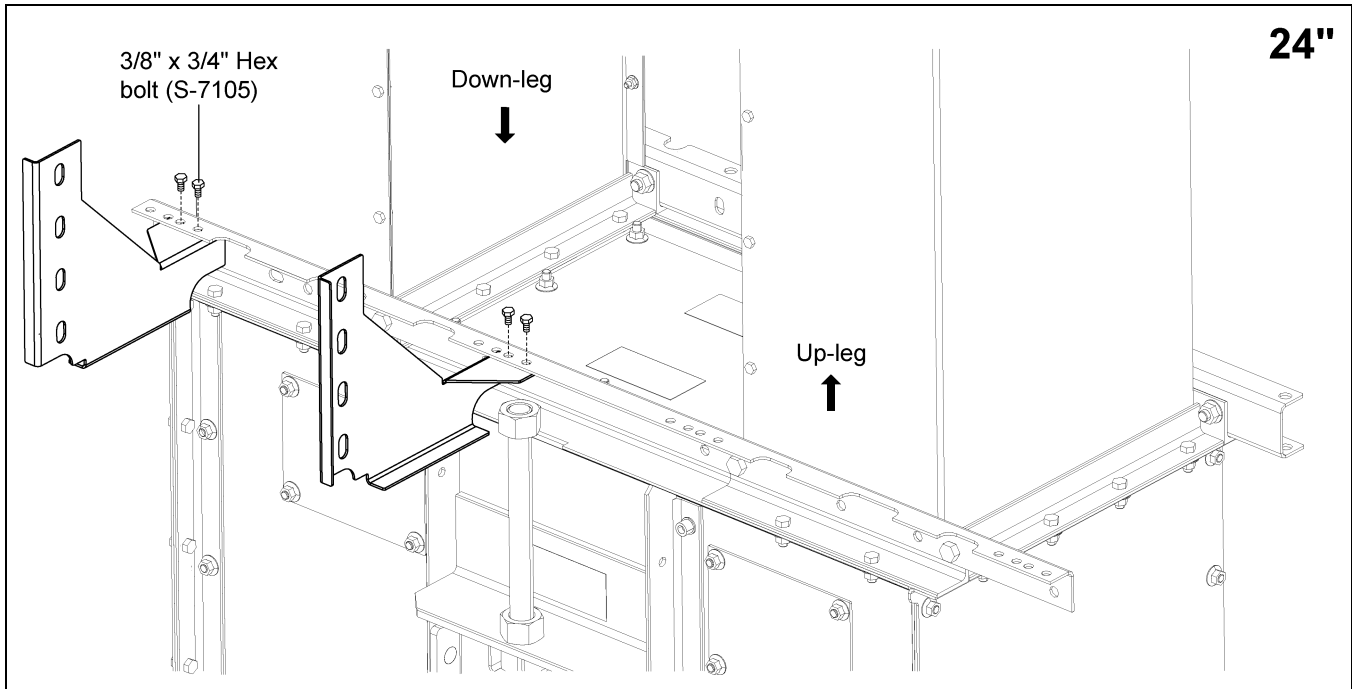

Figure 4N 24" Boot Bracket Down-Leg
- c. **If using the 24" down-leg:** Use 3/8" x 3/4" hex bolts to attach the ladder support brackets to the boot tie angle using the holes indicated in Figure 4N. Note the outer bracket will have two (2) empty holes to the outside of the connection at the tie angle.